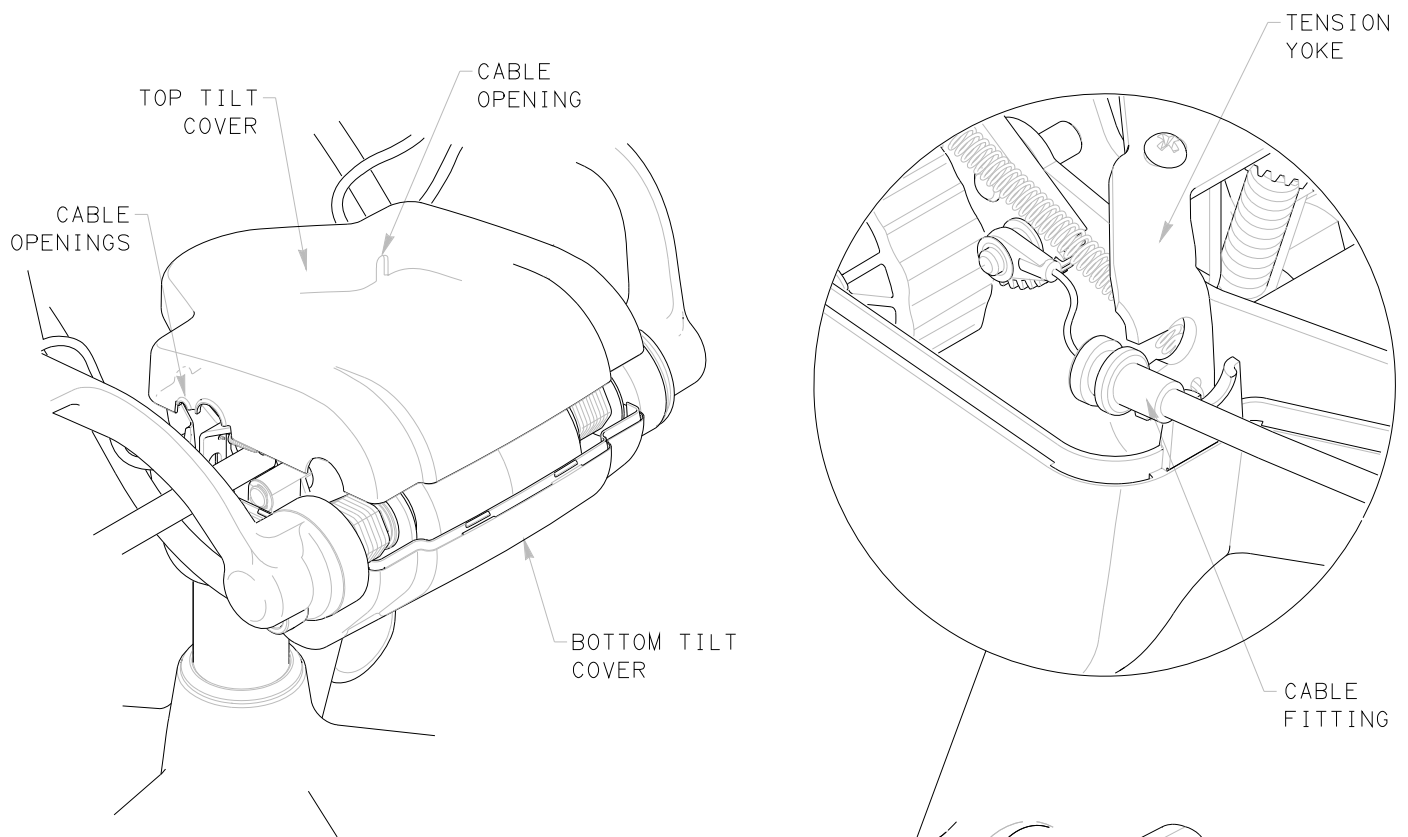

FIGURE 2
13. PLACE TILT COVER ON TILT AND ALIGN TO BOTTOM TILT COVER. ROUTE ALL CABLES THROUGH CABLE OPENINGS AND SNAP COVERS TOGETHER. SEE FIGURE 2.